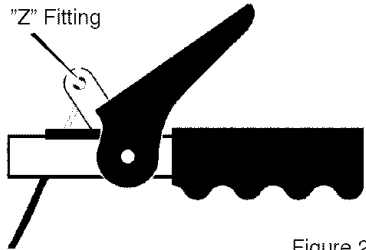

Figure 24
To check for correct adjustment, unhook "Z" fitting at clutch lever (see Figure 24).
5. Disconnect the **"Z" fitting** from the **drive lever** (see Figure 24).
11. Install the **"Z" hook** to the **traction drive lever** (see Figure 24).